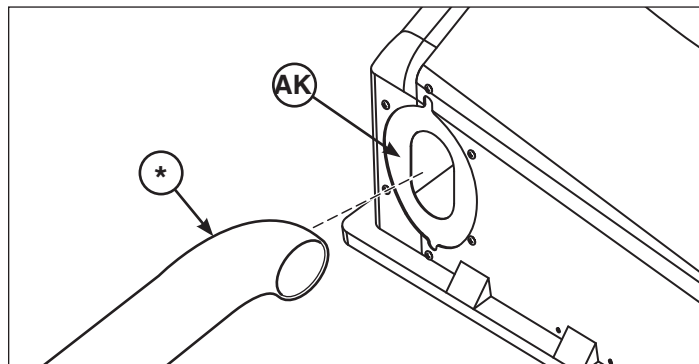

Figure 31
1. Slide the discharge end of tube assembly (*, Figure 31) through the cover seal (AK). This may require some rotating of the discharge end of tube assembly.